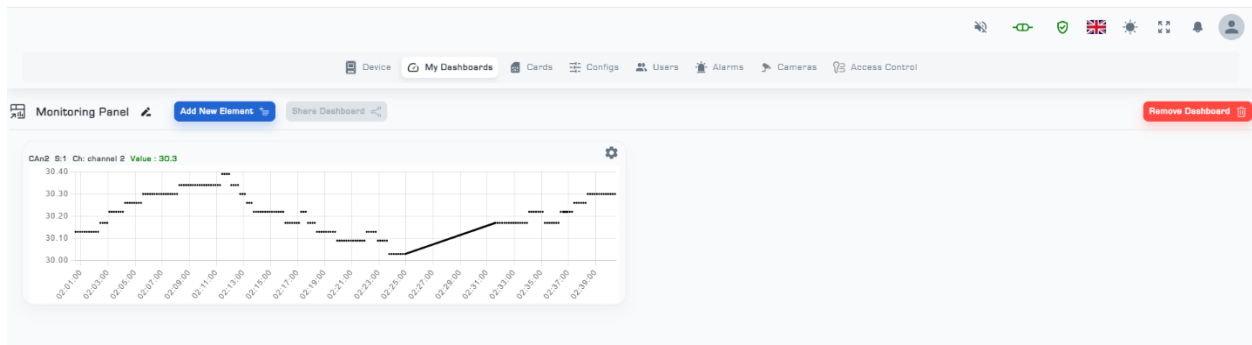

Figure 27: An example of a created dashboard
(4) Finally, by selecting the 'Add' button, you can view the desired data from your selected card (Figure 27).